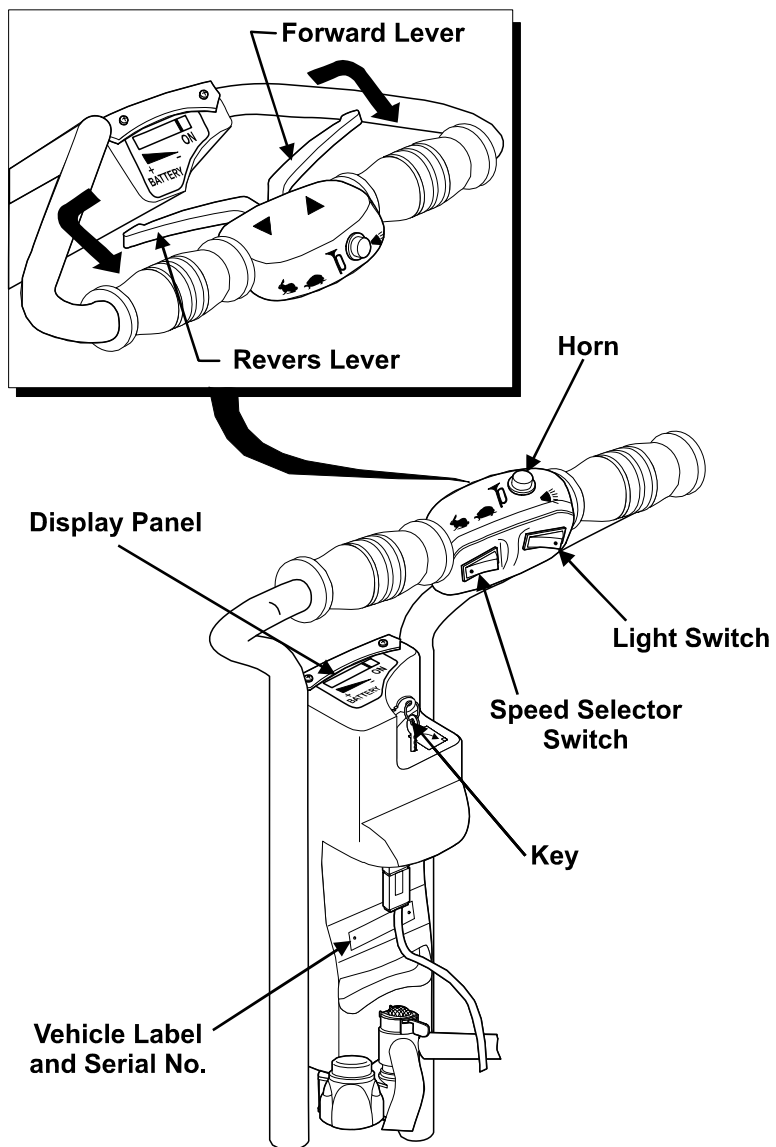

Figure 10.
- 3.1 Mount the **SUPERLIGHT**, insert the **Key** into the **Slot** and turn it clockwise to the (marked) **ON** position. The **Key** will remain in this position. **Panel On Light** should come ON. (See Fig. 10).